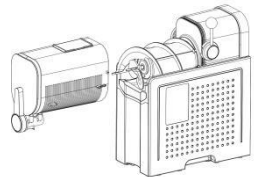

Fig.3
4. With the handle up, slide the vessel over the auger (Fig.3).